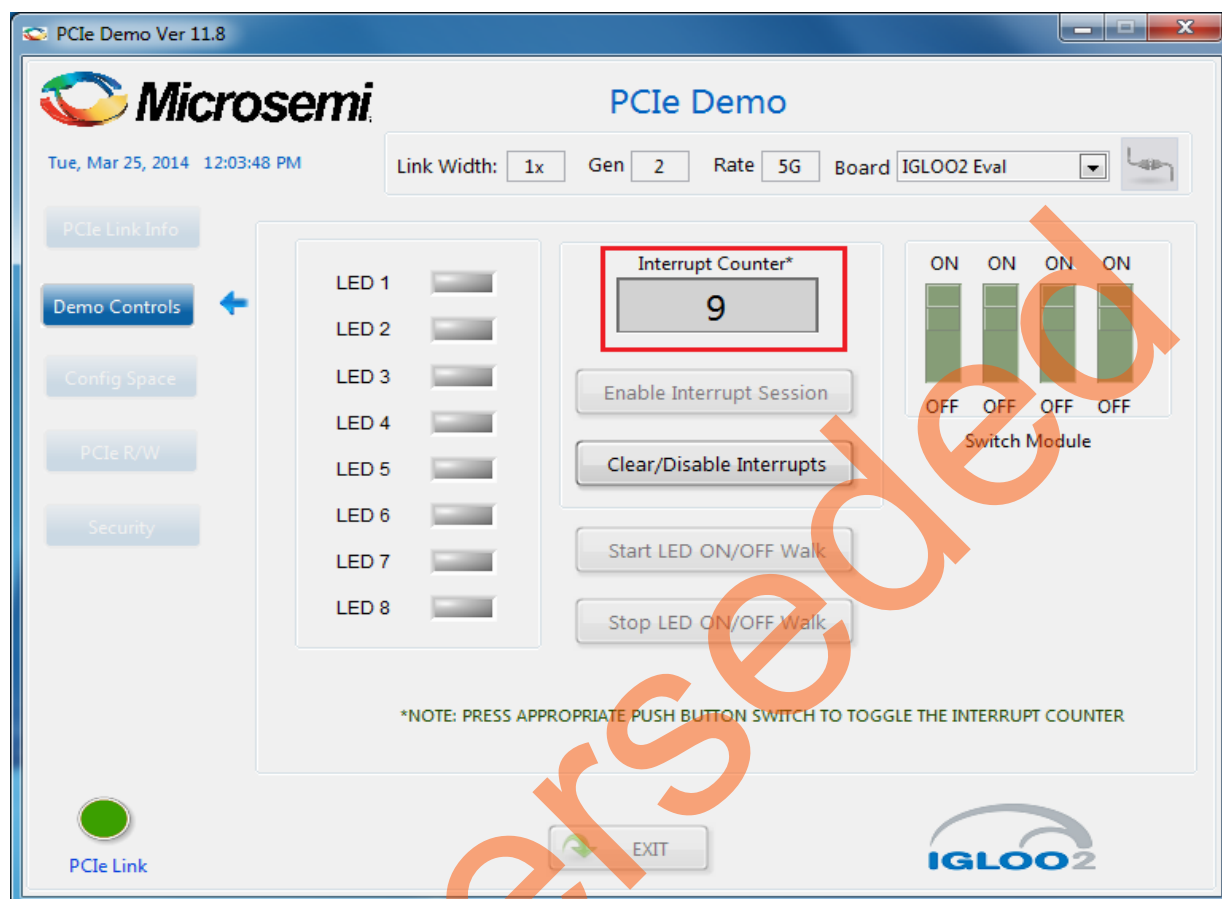

Figure 21 • Interrupt Counter
10. Press the push button **SW4** on the IGLOO2 Evaluation Kit board and observe interrupt count on the **Interrupt Counter** field in GUI as shown in Figure 21.